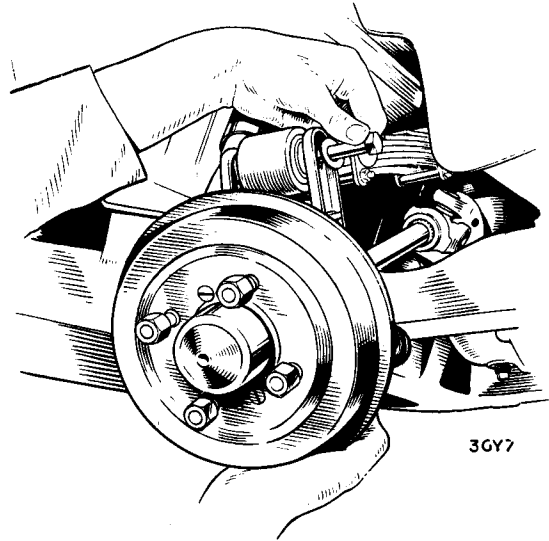

Fig. 5. Removing spring eye bolt
8. Remove the nyloc nut (11), and washer (10) from each damper attachment eye.
9. Remove the bolt from the damper upper attachment eye and withdraw the damper and rubber bushes (9).
11. Whilst supporting brake assembly remove the nyloc nut, plain washer, and bolt from the road spring eye, Fig. 5.